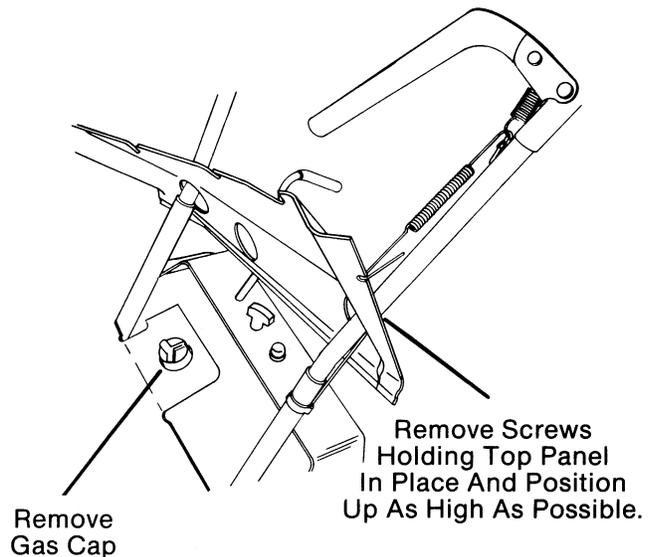

**FIG. 22**
- A. Remove locknut and flat washer holding deflector vane to the auger housing. (Fig. 22)